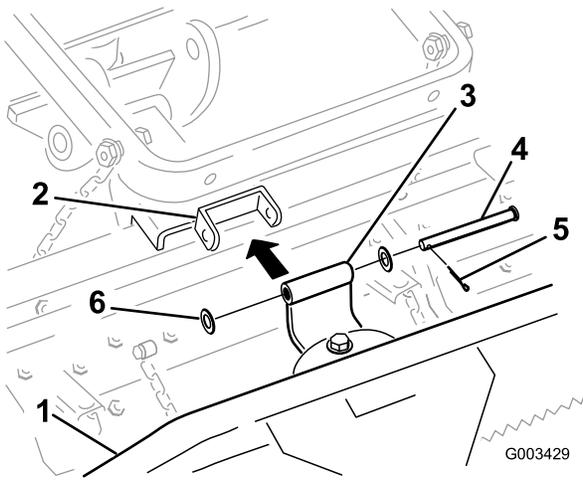

Figure 5
- Connect the pivot bracket to the tooth rake as illustrated in Figure 5 with a clevis pin (1/2 x 4-1/2 inches), 2 washers (0.531 x 1.063), and a cotter pin.